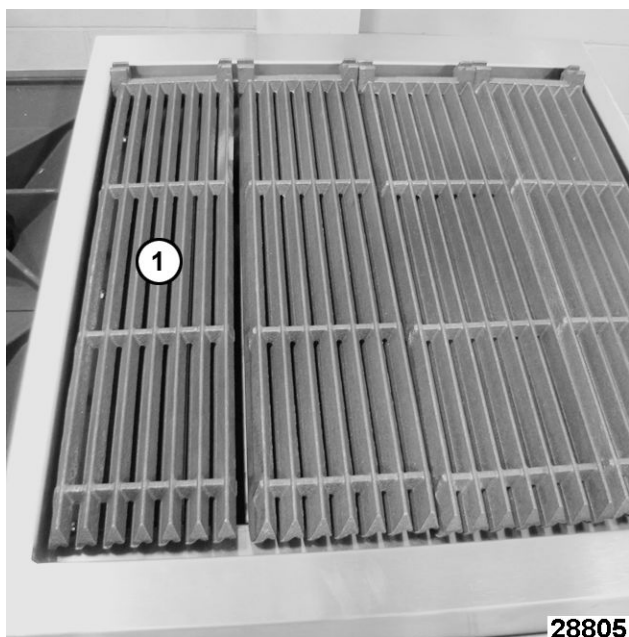

Fig. 58
1. Remove grate (1, Fig. 58) from charbroiler.